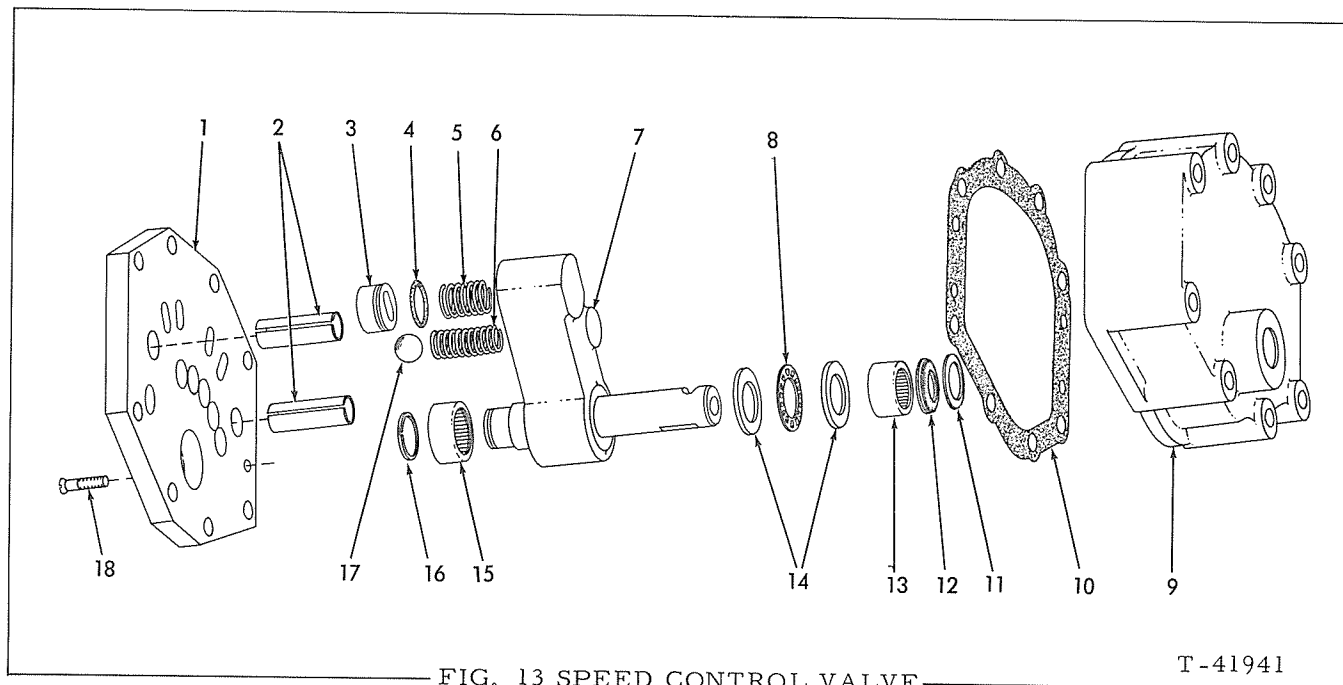

FIG. 13 SPEED CONTROL VALVE
- b. Disconnect connecting rods (3) from rotor lever (8). Loosen rotor lever clamping capscrew (7) and slide rotor lever from key in rotor; remove key from rotor.
- c. Remove capscrews (5); remove speed control valve and gasket from manifold (6).
- d. Remove screw, Fig. 13 (18) from adapter plate (1); remove sealing ring (16) from shaft. Place valve (adapter plate down) on a cloth or similar surface to prevent scratching; lift off cover (9) and gasket (10).
- e. Lift shaft assembly (7) from adapter plate (1).
- f. Remove bearing, Fig. 13(8) and washers (14) from shaft. Remove O-ring (4) from wiper (3).
- g. Check bearing (15) in adapter plate and bearing (13) in cover; remove bearings if replacement is necessary. If oil has been leaking from shaft bore in cover, remove bearing (13) and replace seal (12).
- a. If bearing Fig. 13 (15) was removed,
- c. Install O-ring, Fig. 13 (4) on wiper (3). Insert wiper spring (5) and wiper (3) into hole in shaft extension; depress wiper spring until wiper O-ring enters hole in shaft extension. Hold wiper in this position and install detent spring (6) into other hole in shaft extension. Place detent ball (17) in center detent hole in adapter plate; install shaft assembly on adapter so that detent spring is against ball.
- d. Install thrust bearing (8) and thrust washers (14) on shaft.
- e. Hold shaft assembly against adapter plate. Install new gasket (10) on adapter plate; install cover (9) over shaft assembly and against adapter plate. Secure cover with screw (18).
- f. Install sealing ring (16) on end of shaft.